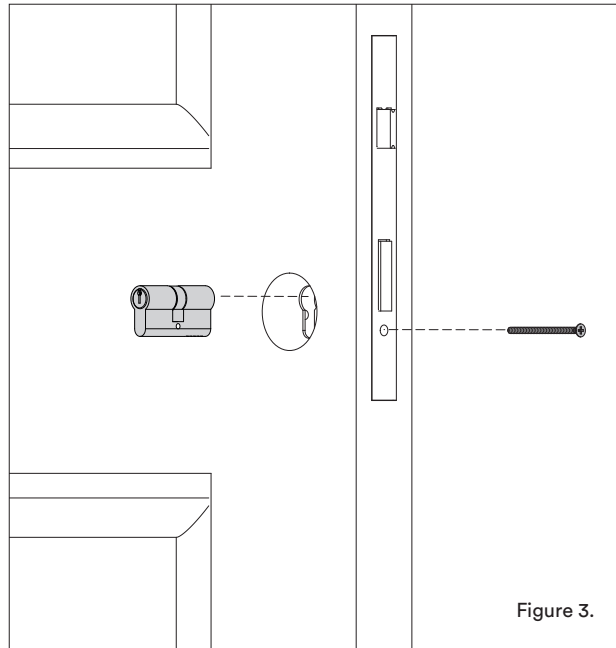

Figure 3.
- 3.1. Insert key/key euro cylinder through the lock body and fix with the appropriately sized cylinder screw provided. (Figure 3)